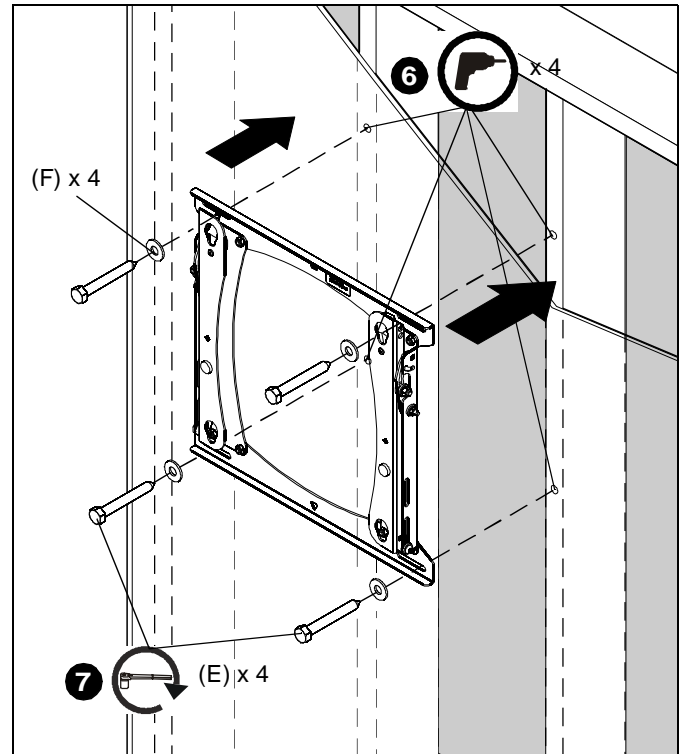

Figure 2
6. Using a 7/32" drill bit, drill four pilot holes (2-3/4" deep), ensuring they are centered on the studs. (See Figure 2)
7. Fasten PRO16 to wall using four 5/16 x 2-1/2" lag bolts (E) and four 5/16" flat washers (F). (See Figure 2)